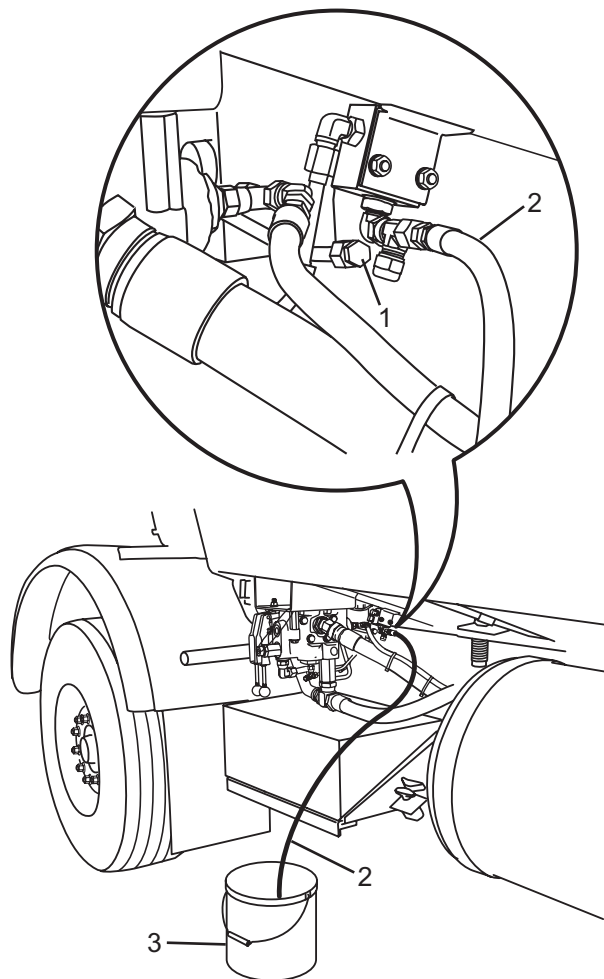
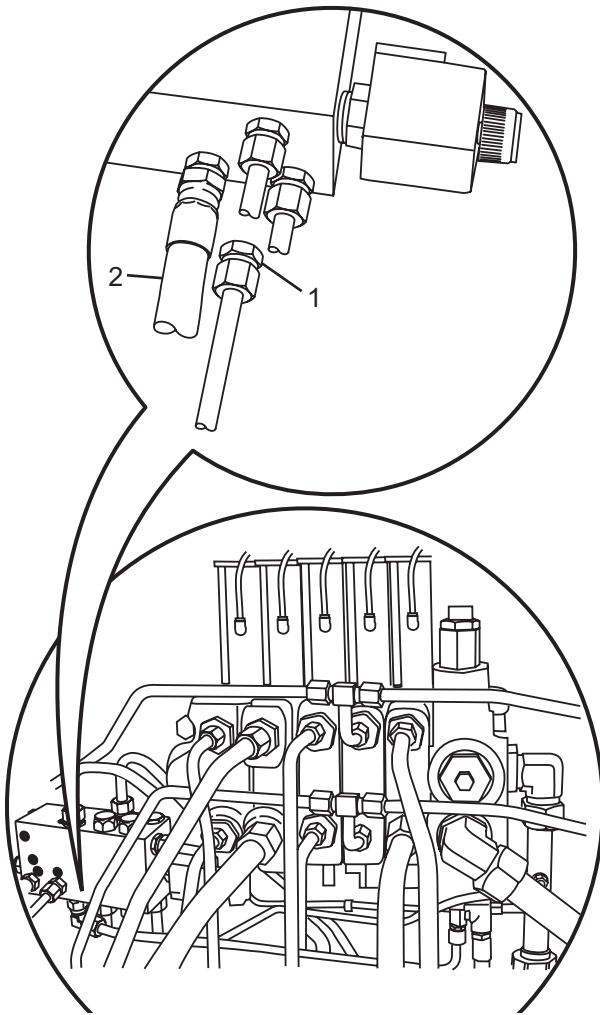

Figure 43
Figure 44
3. Install a plug (Figure 43, Item 1 and Figure 44, Item 1) in the outlet line.
4. Connect the N.O. valve outlet fitting to a shop test hose (Figure 43, Item 2 and Figure 44, Item 2).
5. Place end of shop test hose in large container (Figure 43, Item 3 and Figure 44, Item 3).